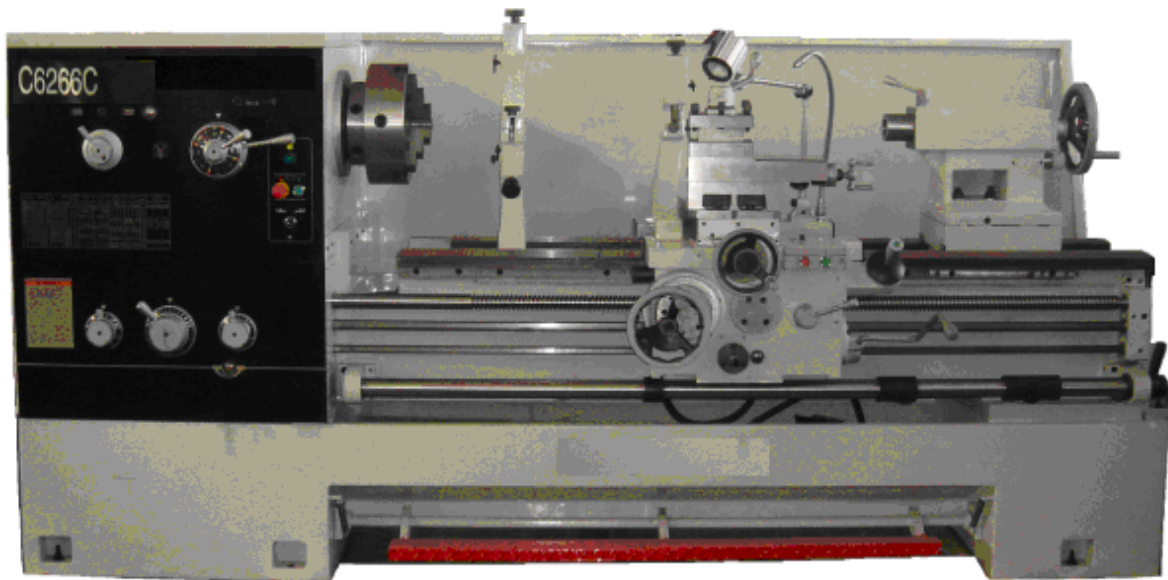

Fig 1 Appearance of the machine
1. APPEARANCE OF THE MACHINE (See Fig 1)